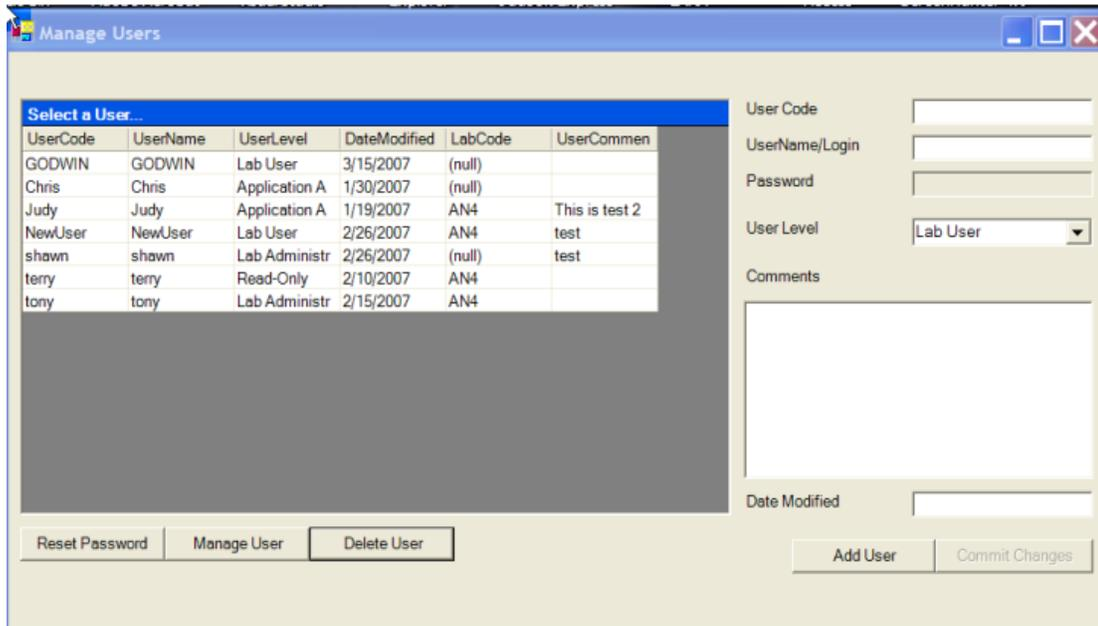

Figure 80. Manage Users
(11). To add a users Enter user code, username/login user level comments and date modified to the right (Figure 80). User levels are: